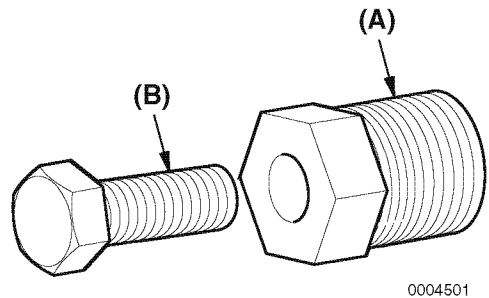

Figure 16
2. Install puller (**Figure 16, (A)**) in the impeller.
3. Turn the jack screw (**Figure 16, (B)**) clockwise to remove the impeller from the pump body.